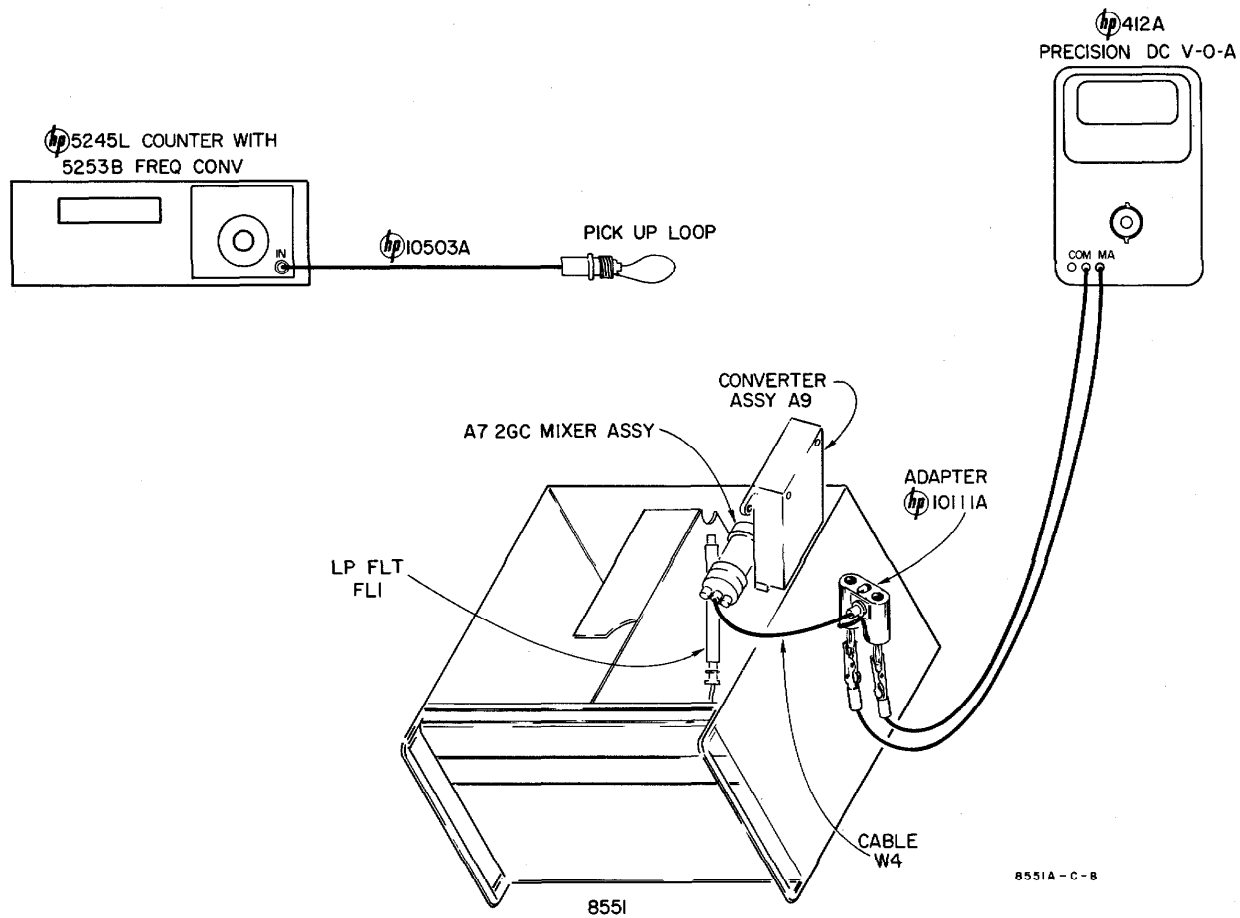

Figure 5-7. Setup for Measuring 180 MC Oscillator Frequency and Diode A7CR1 Current
- b. Move converter assembly so connection between Cable W4 and Low-Pass Filter FL1 (Figure 5-7) can be reached. Disconnect Cable W4 from Filter FL1.
- c. Using an adapter on Cable W4, connect milliammeter to Cable W4 (see Figure 5-7).
5-83. PROCEDURE. Setup is similar to that shown in Figure 5-7.